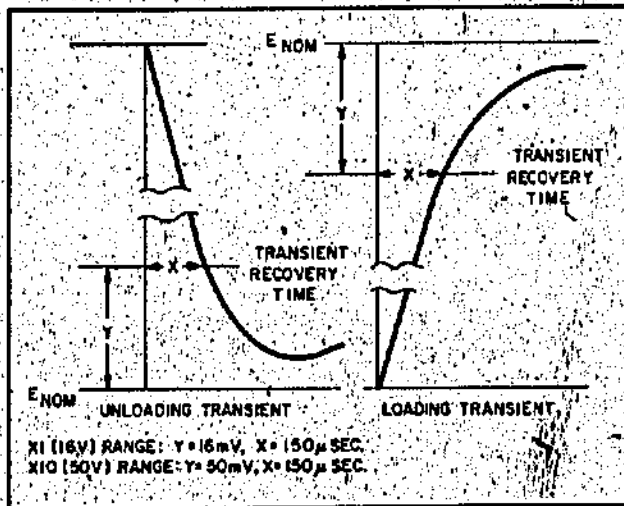

Figure 5-6. Transient Recovery Time, Waveforms
h. Starting from the major graticule division representative of time zero, count to the right 150 μsec and vertically 50mV. Recovery should be within these tolerances as illustrated in Figure 5-6.
j. The transient recovery should be within 16mV at 150μsec as illustrated in Figure 5-6.